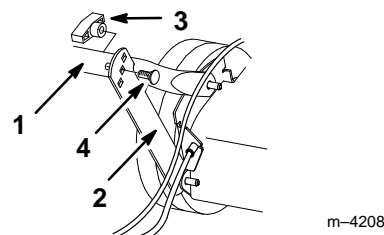

Figure 2
2. Swing the lower handle back and the support brackets up, aligning the brackets with the holes in the handle (Fig. 2).
3. Secure the handle to the support brackets with the two flat handle bolts and two knobs, using the height adjustment holes on the brackets that best suit your height requirements (Fig. 2)